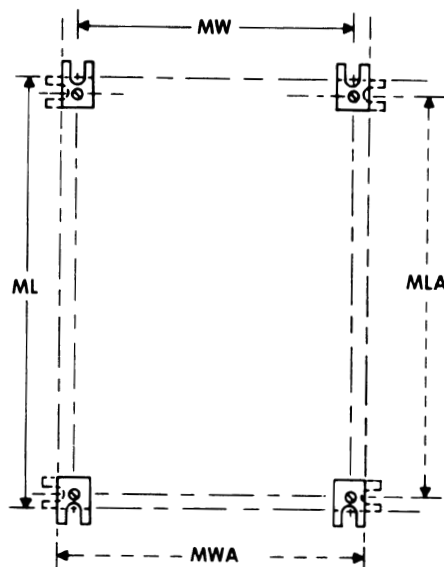

Figure 2
1. Enclosure has mounting feet as shown in Figure 2. See catalog number and mounting dimensions for particular enclosure being installed.